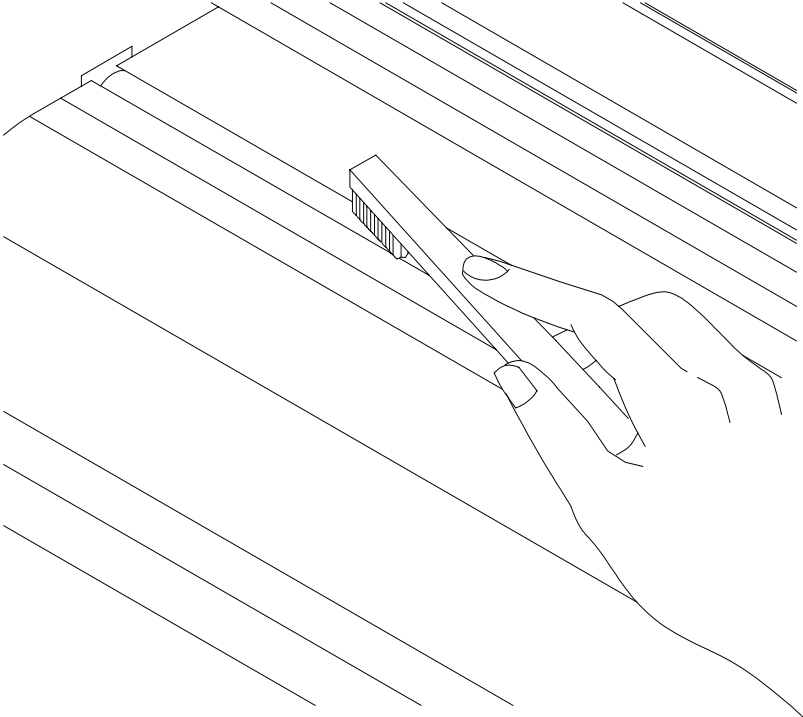

Figure 27. Cleaning the grit shaft.
3. Using the supplied cleaning brush, remove any accumulated dust and paper residue from the grit shaft. Be sure to rotate the grit shaft and clean all of the surfaces. See *Figure 27*.